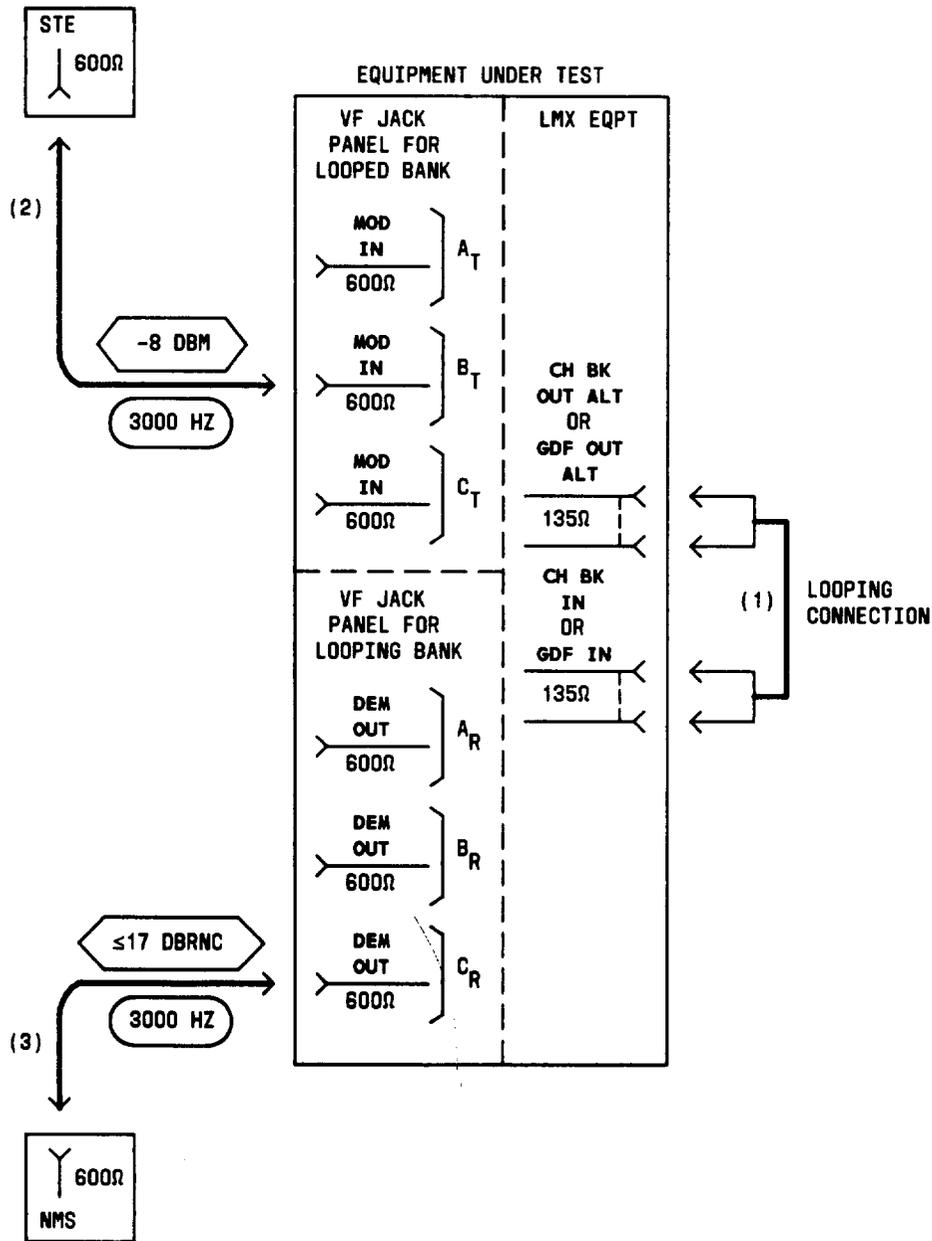

Fig. 24—Patching Diagram—Crosstalk Test—Unequal-Level Looping—Upper Adjacent Channel (3000 Hz)
- 18 Connect the STE to the MOD IN jack for Test A in *looped*-bank Channel B_T [Table K and patch (2), Fig. 24].
- 19 Connect the NMS to the DEM OUT jack for Test A in *looping*-bank Channel A_R , [Table K and patch (3), Fig. 24].
- 23 Remove patches (2) and (3), Fig. 24.